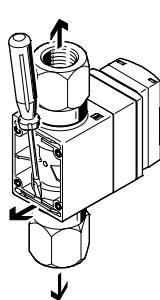

Fig. 9 Dismantling fluid connection
- Dismount fluid connector (→ Fig. 9).